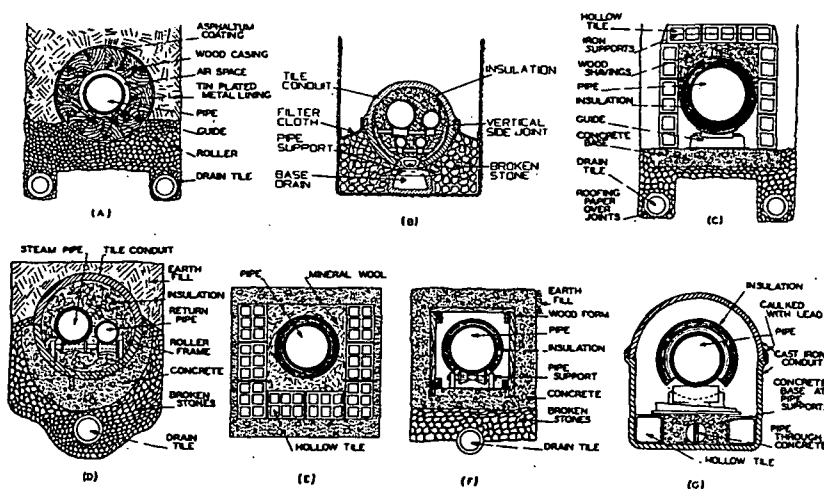

FIG. 1. CONSTRUCTION DETAILS OF CONDUITS COMMONLY USED
the casing. The casing is lined with bright tin and coated with asphaltum. The pipe is supported on rollers carried in a bracket which fits into the casing. The lengths of casing are tightly fitted together with a male and female joint. This form of conduit is illustrated in Fig. 1 at A. The casing rests on a bed of crushed stone with tile drains laid below. The tile drains are of 4-in. field tile or vitrified sewer tile, laid with open joints.
**Filler Type:** The pipes are supported on expansion rollers properly supported from the conduit or independent masonry base. The pipes are protected by a split-tile conduit, and the entire space between the pipes and the tile is filled with an insulating filler. Thus the pipes are nested and the insulation between them and the tile effectively prevents circulation of air. The conduit is placed on a bed of gravel or crushed rock from 4 to 6 in. thick, which is extended upward so as to come about 2 in. above the parting lines of the tile. A tile underdrain is placed beneath the conduit throughout the entire length and is connected to sewers or to some other point of free discharge. At B and D in Fig. 1 are shown two forms of tile conduit of the filler type.
**Sectional Insulation Type (Tile or Concrete Trench):** A type of construction frequently used in city streets, where service connections are required at frequent intervals, the pipes are insulated as described in the preceding paragraph, and are enclosed in a box or trench made either entirely of concrete, or with concrete bottom and specially constructed tile sides and tops. The pipes are supported on roller frames secured in the concrete. At C and E, Fig. 1, are shown two tile conduits using sectional insulation. In these particular designs the space surrounding the pipe is filled partially or wholly with a loose insulating material. The use of loose material in addition to the sectional insulation is, of course, optional and is only justifiable where high pressure steam is used. The conduit shown at F is of a similar type and has the advantage of being made entirely of concrete and other common materials.
**Special Water-Tight Designs:** It is occasionally necessary to install pipes in a very wet ground, which calls for special construction. The ordinary tile or concrete conduit is not absolutely water tight even when laid with the utmost care. The conduit shown at G, Fig. 1, is of cast-iron with lead-calked joints and is water tight if properly laid. It is obviously expensive and is justified only in exceptional cases. A reasonably satisfactory construction in wet ground is the concrete or tile conduit with a waterproof jacket enclosing the pipe and its insulation, and with the interior of the conduit carefully drained to a manhole or sump having an automatic pump. It is useless to install external drain tile when the conduit is actually submerged.